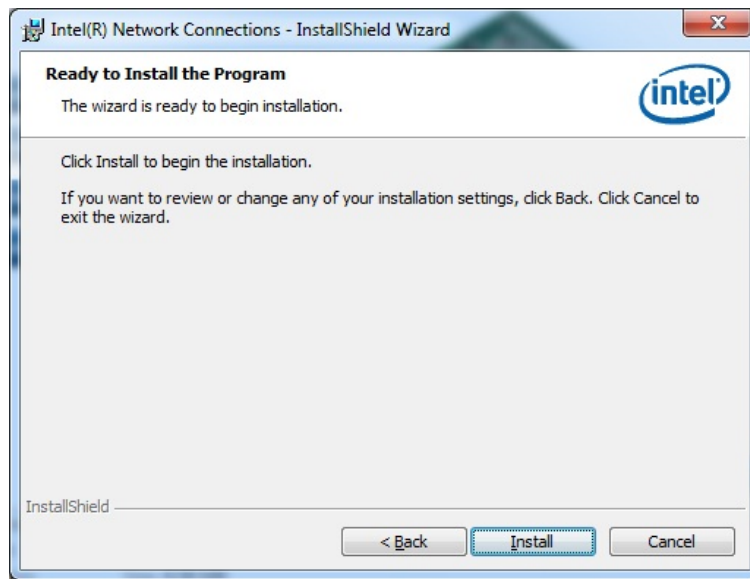

Figure 6-15: LAN Driver Installation
Step 15: The **Ready to Install the Program** screen in **Figure 6-15** appears.